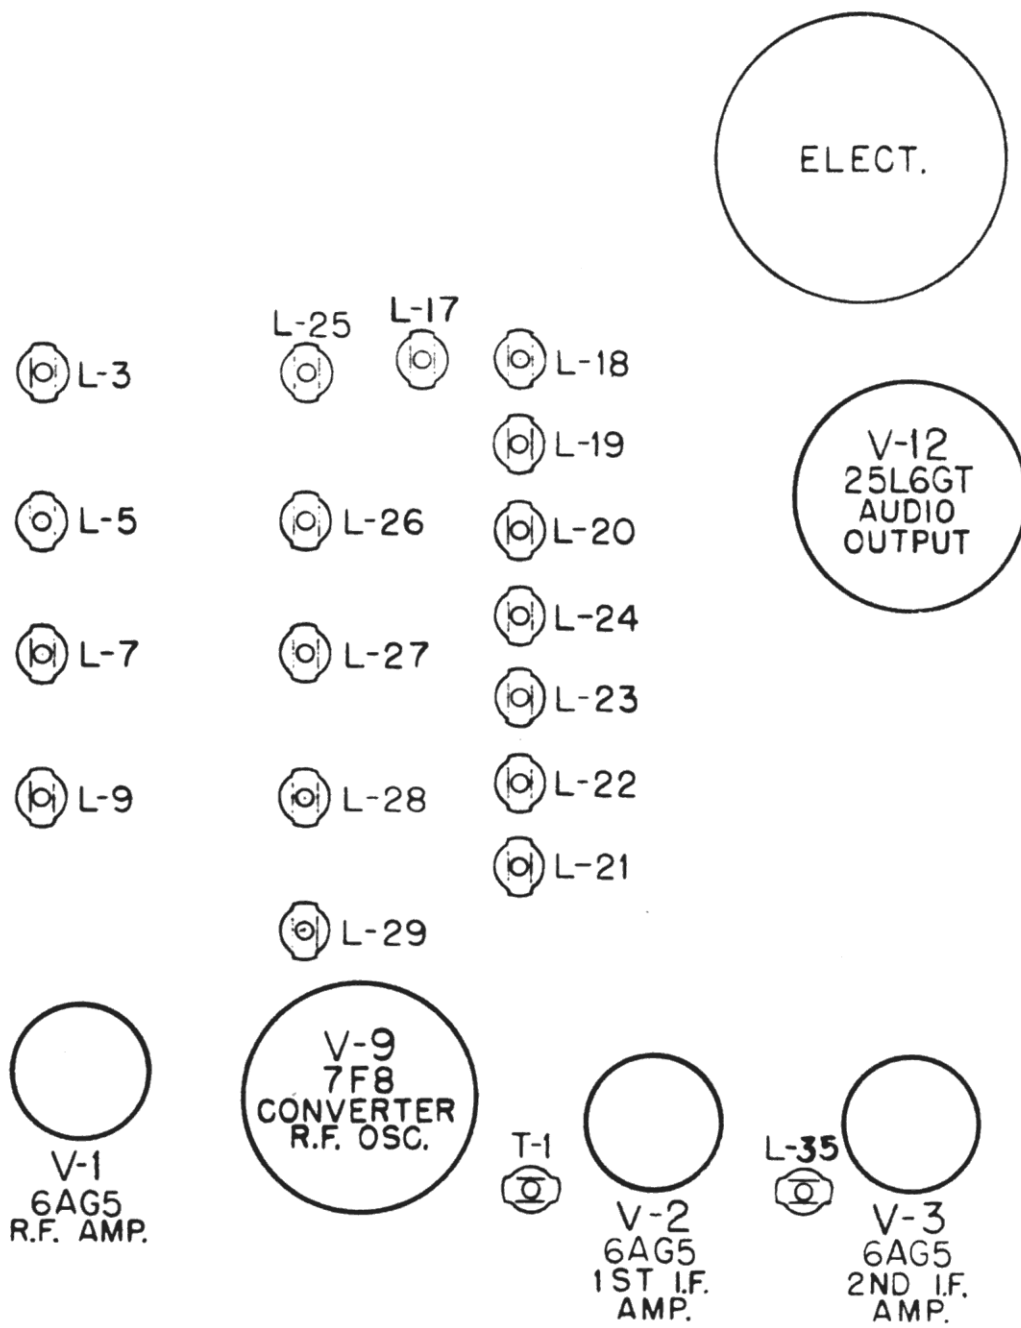

FIG. 25. ANTENNA, R.F. & OSCILLATOR ADJUSTMENTS LOCATIONS
- e. Refer to Figure 25 for location of adjustments.
e. Refer to Figure 25 for location of adjustments.